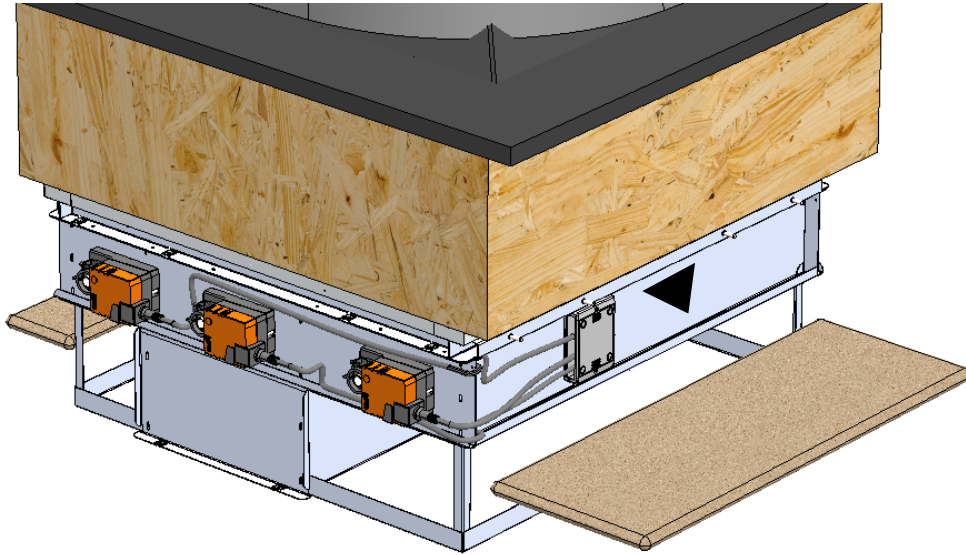

Figure 54 – Absorption Bags
1. Once the external diffuser box has been fitted, remove the outer plastic bag from the absorption bags and place one absorption bag in each compartment – *see figure 54.*